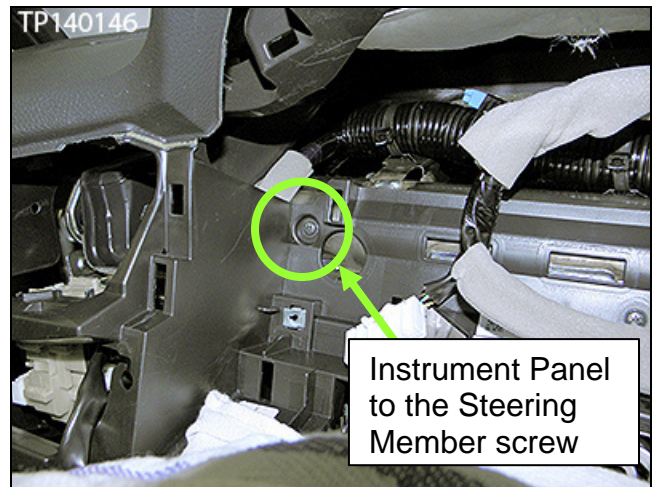

Figure 21
16. Remove one (1) screw that attaches the Instrument Panel to the Steering Member shown in Figure 21.